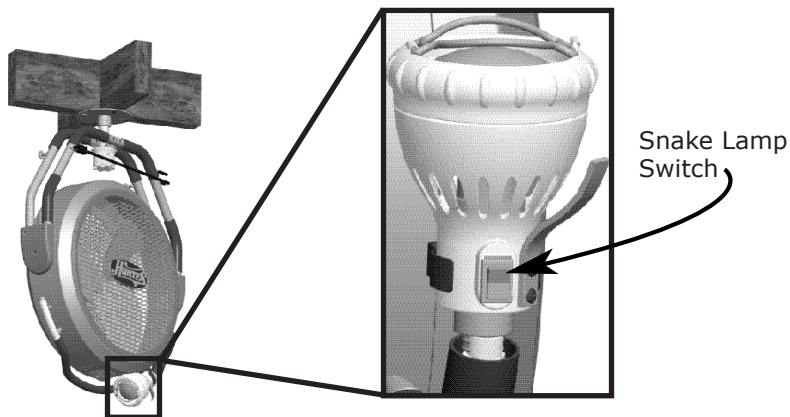

Figure 5
9. FOR MODELS WITH THE SNAKE LAMP - Position the flexible Snake Lamp to shed light on your work area. Use the Snake Lamp Switch to turn the lamp on and off. See Figure 5.
7. FOR MODELS WITH THE SNAKE LAMP - Position the flexible Snake Lamp to shed light on your work area. Use the Snake Lamp Switch to turn the lamp on and off. See Figure 5.